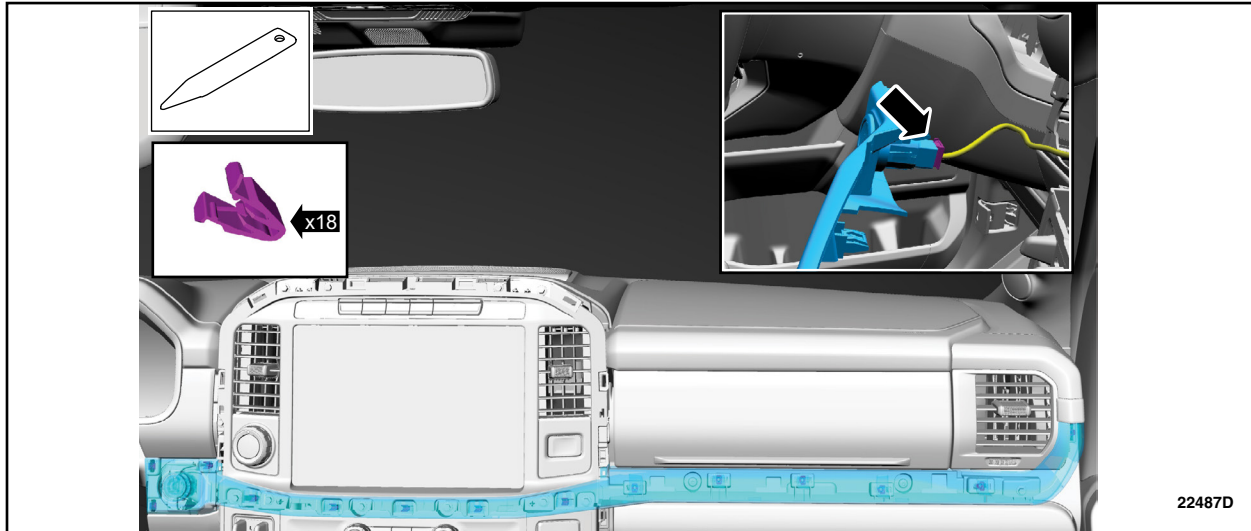

FIGURE 4
6. Release the clips, disconnect the electrical connector and remove the center finish trim. See Figure 4.